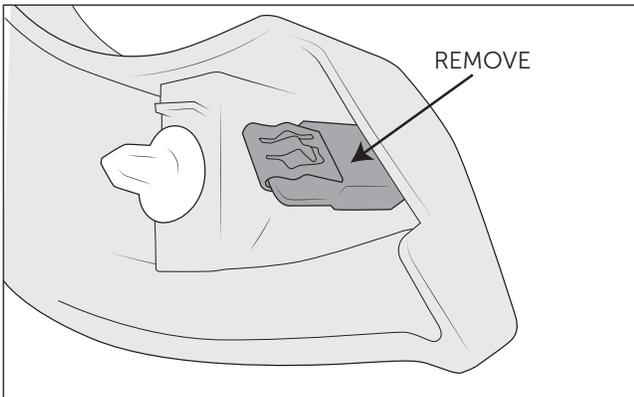

Figure 21
- A. Cut off the W Base Clip from the existing fender flare as needed so the flares will sit flush against the headlamp filler (fig. 21).